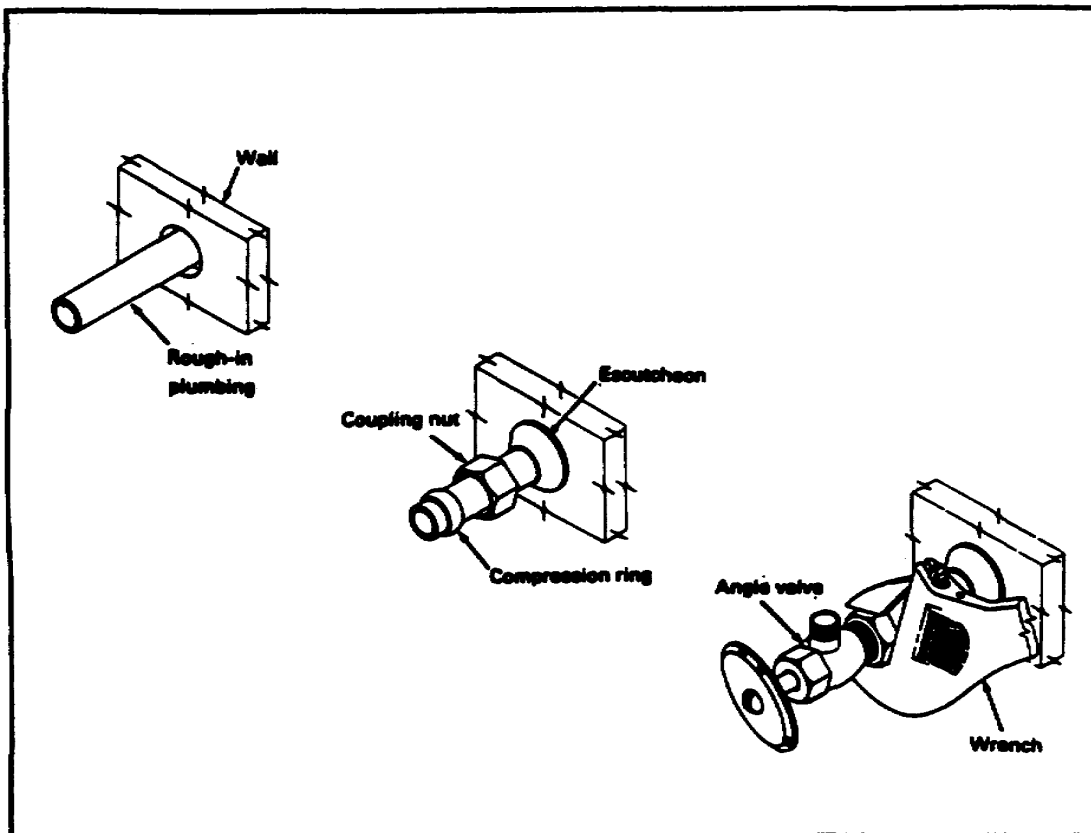

FIGURE 13. INSTALLING SHUTOFF ANGLE VALVE, COPPER PIPE
**Installing shutoff angle valves to rigid copper tubing.** Use the following steps to install an angle valve to rigid copper tubing (see Figure 13):